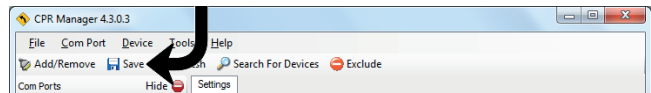

Fig. 87
9. The changes made must be saved using the "Save" button. See Fig. 87.